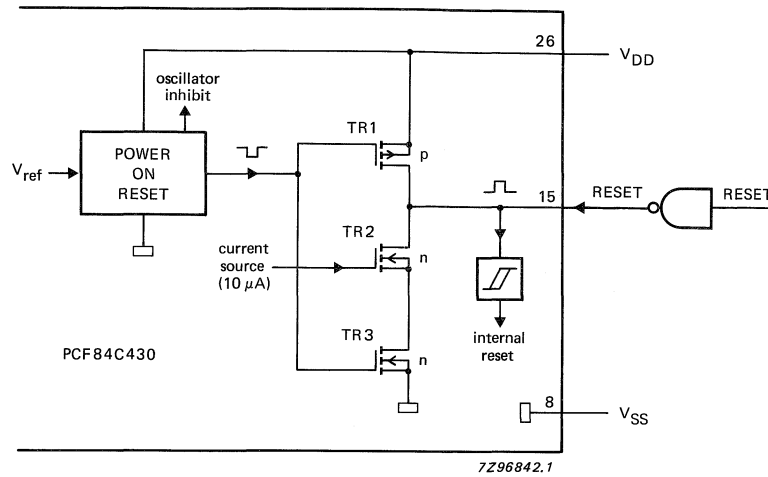
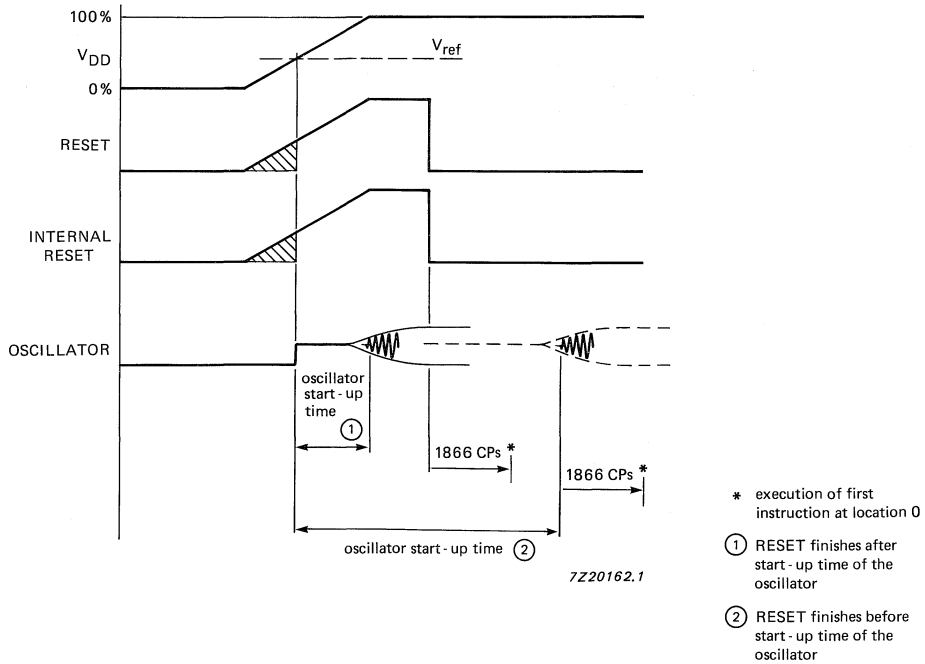

Fig. 25 External power-on-reset configuration.
Fig. 26 Timing of external power-on-reset.
3. Figure 25 shows an external reset to the PCF84C430 during power-on. The external reset signal must remain HIGH until  $V_{DD}$  has reached its minimum operating value corresponding to the selected oscillator frequency. When a reset is completed (RESET goes LOW) before the oscillator has started up, program execution begins after the oscillator start-up time plus 1866 clock periods have elapsed (see Fig. 26). If the oscillator is started-up prior to the completion of RESET, then program execution begins 1866 clock periods after RESET goes LOW.